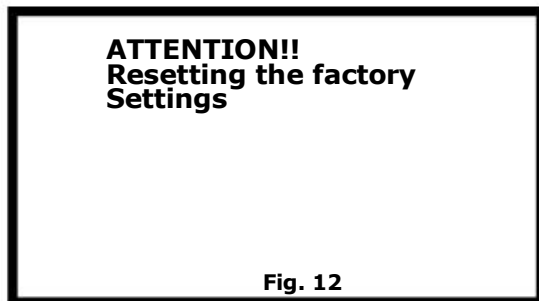

Fig. 12
- **Factory Reset.** By pressing the button [**+**] the factory values will be reset. Note that parameters of the adjusted coils thus remain (a Fig. 12).